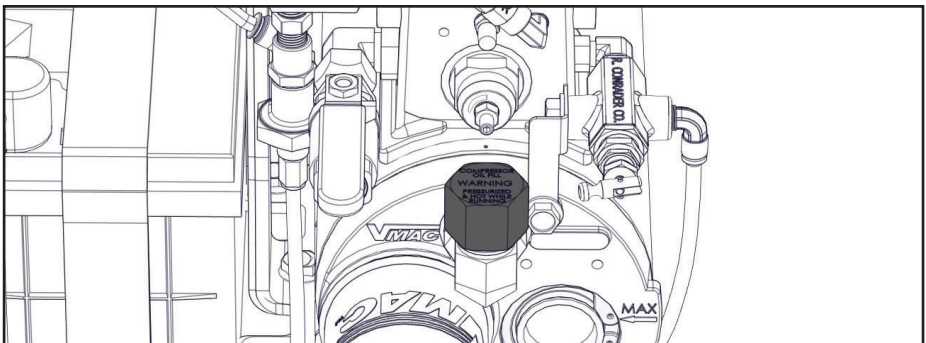

Figure 42 — Compressor oil fill
- ☐ Remove the filler cap on the WHASP Tank. Fill the WHASP Tank with VMAC compressor oil until it reaches the "MAX" mark. The air compressor system holds approximately 4 L (1 USG) of oil (Figure 42).